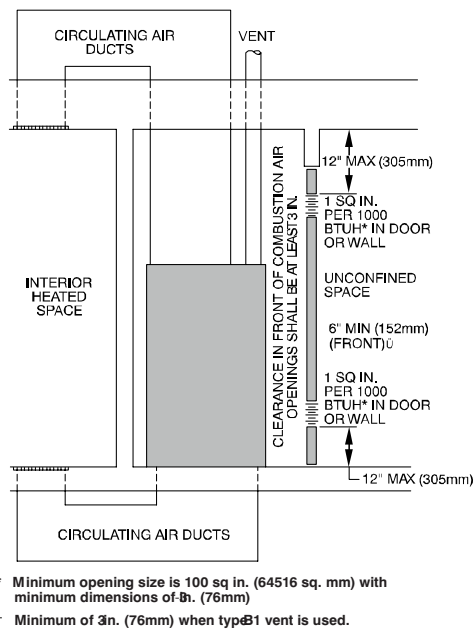

Fig. 7 – Air for Combustion, Ventilation, and Dilution from Indoors
- b. Combining spaces on same floor level. Each opening shall have free area of at least 1 in.²/1,000 BTUh (2,000 mm²/kW) of the total input rating of all gas appliances in the space, but not less than 100 in.² (0.06 m²). One opening shall commence within 12 in. (300 mm) of the ceiling and the second opening shall commence within 12 in. (300 mm) of the floor. The minimum dimension of air openings shall be at least 3 in. (80 mm). See Fig. 7.